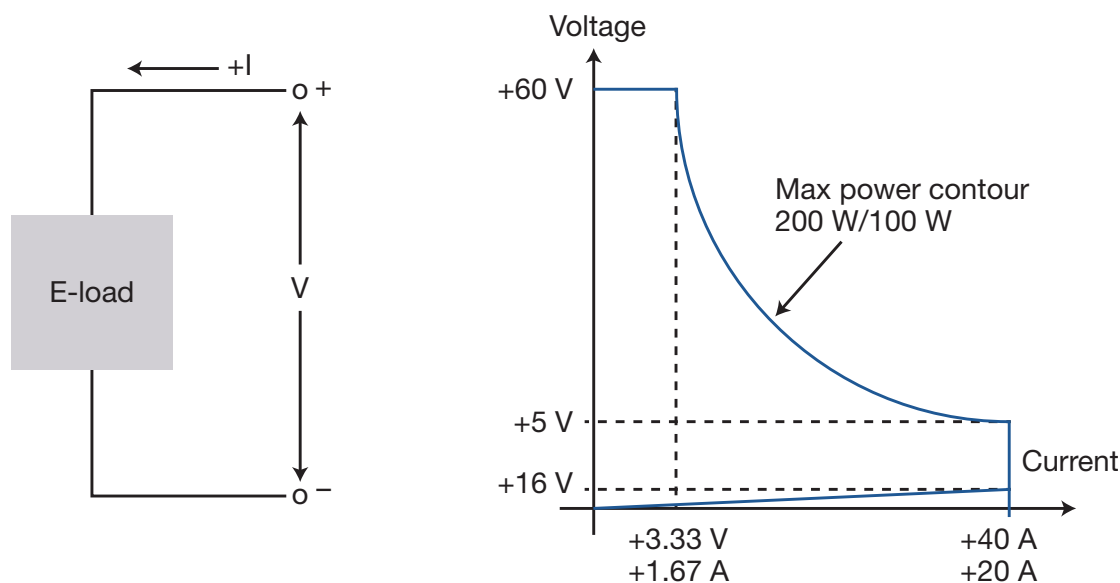

Figure 1. Polarity convention and input characteristic of an electronic load
An electronic load is a test instrument designed to sink current and absorb power out of a power source. If a power supply is used to power a device, an electronic load is used to test the power supply by emulating the device under test (DUT). Power supplies and electronic loads are complementary test equipment. The power supply tests electronic circuits under specific sourcing conditions. The electronic load tests the energy sources or energy conversion blocks under specific loading constraints. An electronic load is a programmable instrument that offers the user various modes of control such as constant voltage (CV), constant current (CC), constant power (CP) or constant resistance (CR). Figure 1 shows the voltage and current diagram of an electronic load.
Most electronic loads specify a maximum power level they can absorb as shown by the max power contour in Figure 1. The user can operate the load only within the voltage and current combinations limited by the maximum power contour.